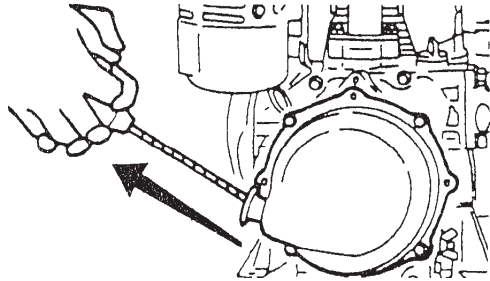

Figure 12. Engine Start Handle
3. Grasp the starter grip (Figure 12) and slowly pull it out. The resistance becomes the hardest at a certain position, corresponding to the compression point. Pull the starter grip briskly and smoothly for starting.